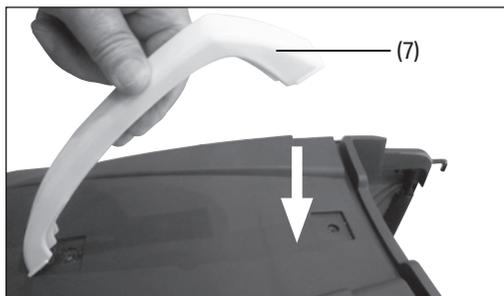

Fig.5
- Pull out and turn both adjustment knobs (10) to release the pins from the holes.
6.4 Assembling the Collection Bag and Handle (Fig.5)